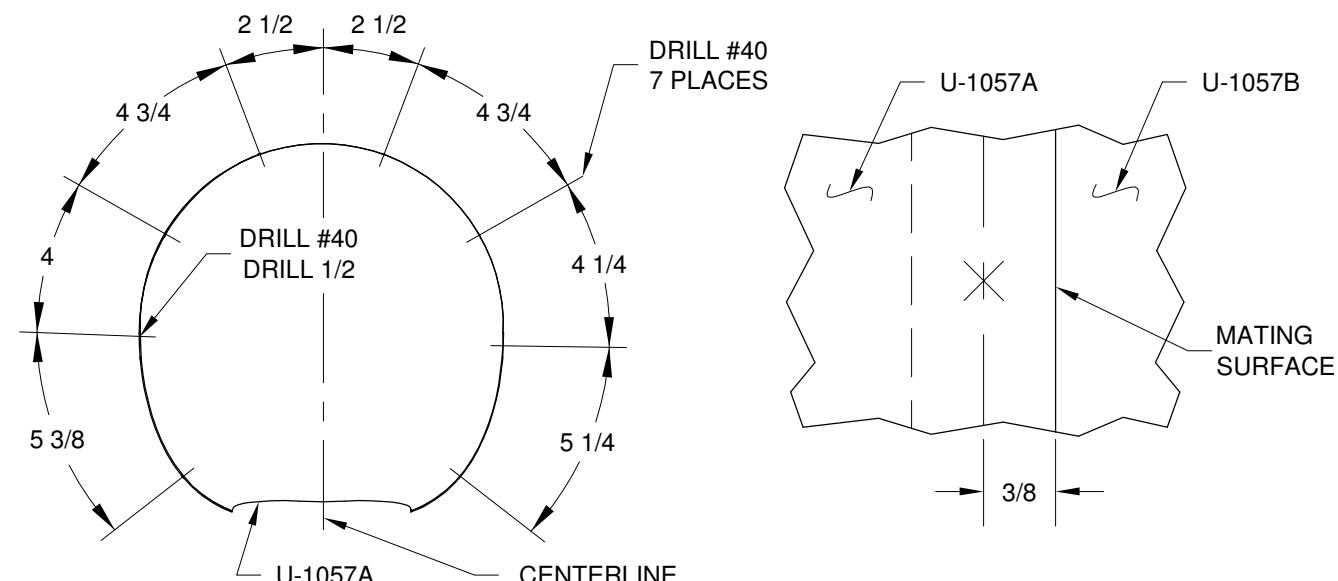

FIGURE 4: FASTENER SPACING (FRONT VIEW - LEFT FAIRING)
Step 4: Drill and cleco the U-1057A Wheel Fairing Front and U-1057B Wheel Fairing Rear halves together as per Figure 4. Measure down from the centerline marked earlier. Drill and cleco beginning at the top of the fairings. Center the holes in the middle of the flange fore and aft. Work down the sides to help minimize bulging and mismatch between the fairing halves. The fairings as supplied are symmetrical (no right or left hand fairing) but the asymmetrical fastener pattern will establish the left and right fairings. The 1/2 inch hole is a start for the U-1001-L Main Gear Leg entry point and will be trimmed more later.